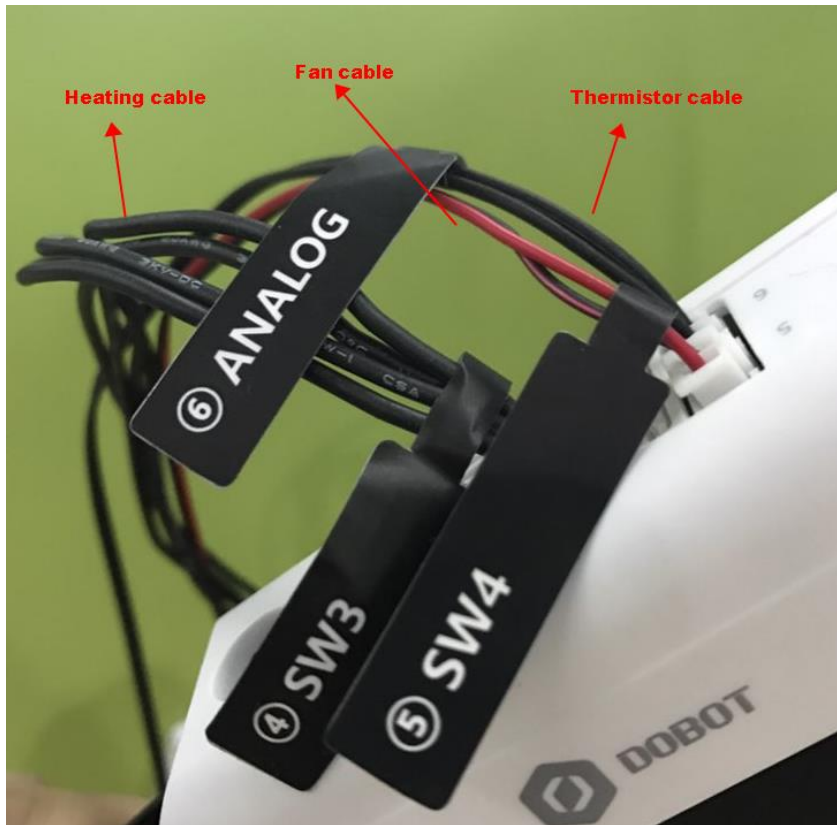

Figure 5.121 Connect hot end to the Forearm
Step 5 Insert the heating cable to the interface **4** on the Forearm, the fan cable to the interface **5** and the thermistor cable to the interface **6**, as shown in Figure 5.121.